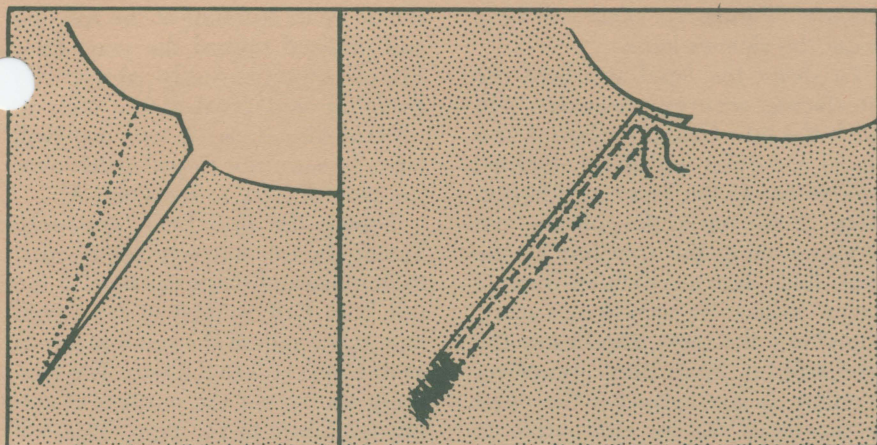

Figure 2. Lapped dart
- *Lapped Method*. Slash dart down one stitching line to end point; lap, matching stitching lines; stitch close to cut edge; stitch again, close to first stitching. Trim to 1/4 inch (6 mm). Reinforce the point by zigzagging (Figure 2).